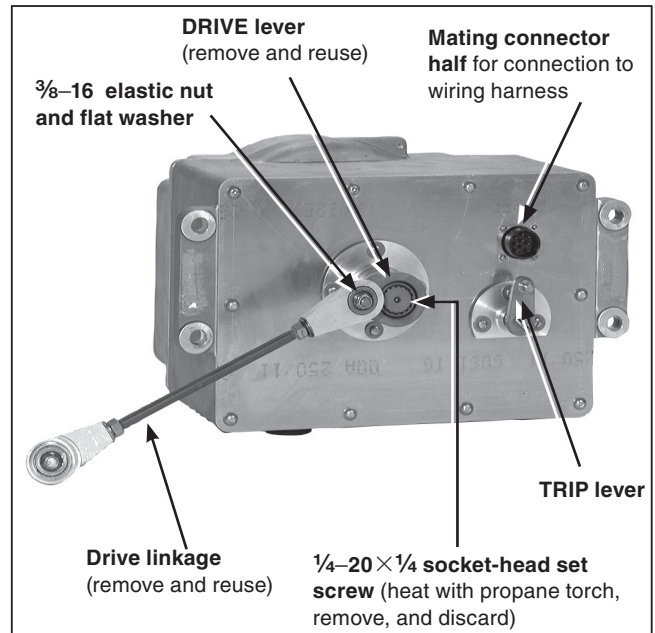

Figure 6. Disconnecting the DRIVE lever.
STEP 6. Remove and discard the $\frac{3}{8}$ -16 elastic nut and flat washer that connects the drive linkage to the DRIVE lever on the existing operating mechanism. Also remove and discard the $\frac{1}{4}$ -20 \times $\frac{1}{4}$ socket-head set screw used to secure the DRIVE lever to the mechanism. A propane torch should first be applied to the set screw to loosen the red Loctite® threadlocker holding the set screw in place. Save the DRIVE lever and drive linkage for reuse. See Figure 6.